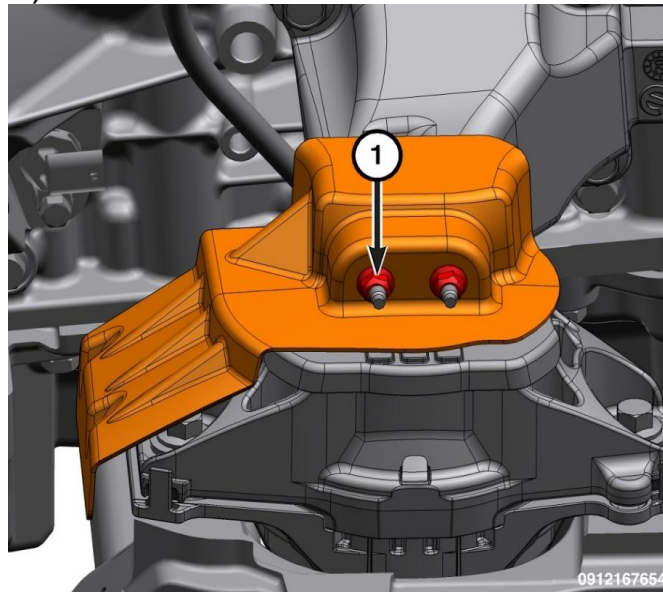

Figure 4.
5. Remove the right engine mount heat shield nuts and the right engine mount heat shield. (see figure 4)